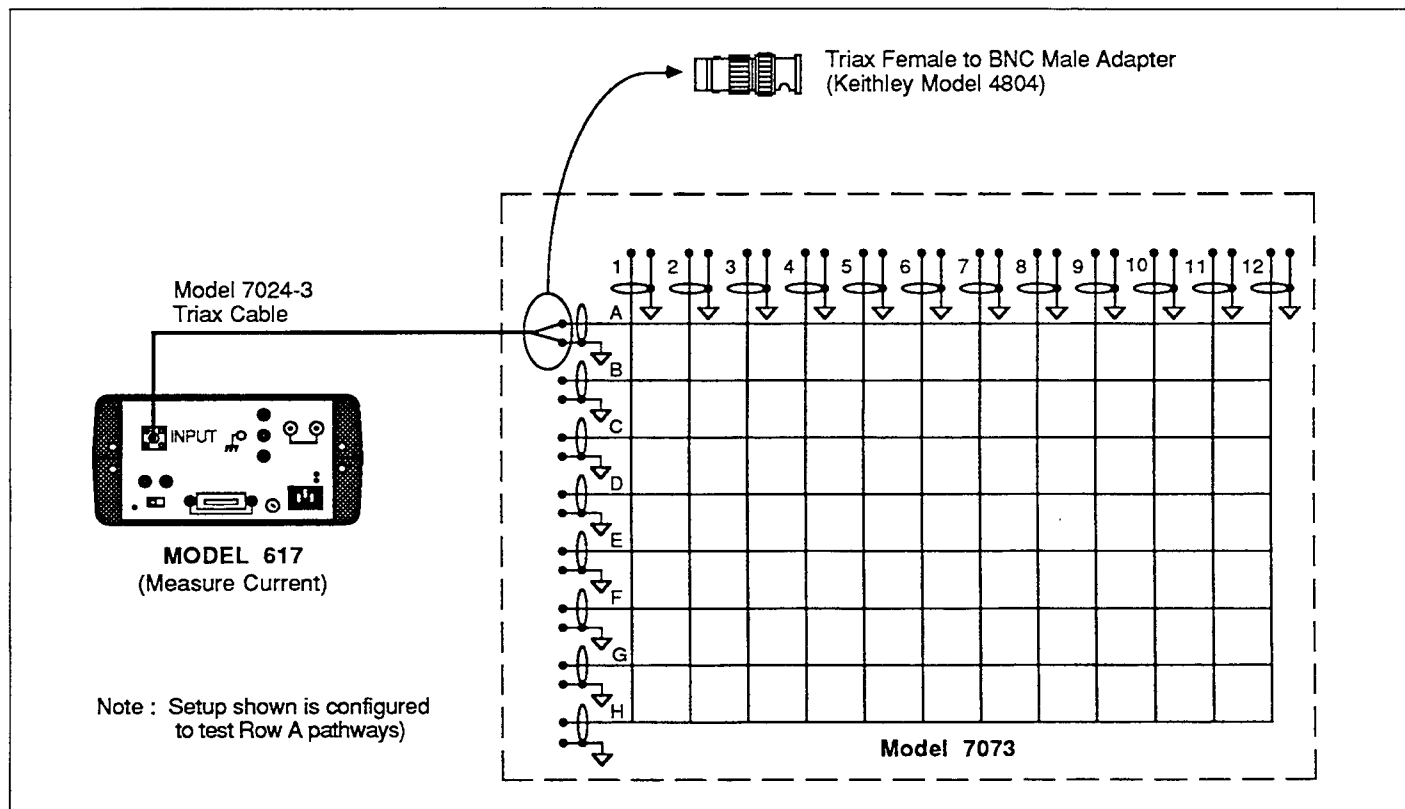

Figure 4-3. Offset Current Testing
Referring to Figure 4-3, perform the following procedure to check offset current:
4. Connect the Model 617 to ROW A of the Model 7073 matrix card as shown in Figure 4-3.